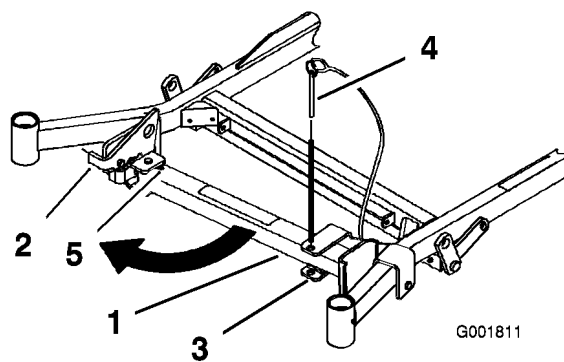
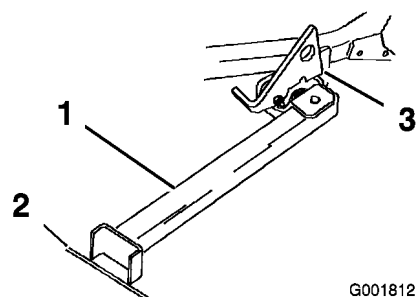

Figure 33
Figure 34
2. Remove the bracket pin (Figure 33).
3. Raise the latch. Swing the stand foot out front and slide stand toward machine, into the bottom of slot (Figure 33 and Figure 34).
4. Set the foot of stand on the ground and rest the latch on the pivot tab (Figure 34).
- Note:** For best results, place the foot of stand into seams in sidewalks or into the turf (Figure 34).
6. Drive onto the stand. Stop when the latch drops over the tab into the locked position (Figure 34). Once onto the stand, engage the parking brake and turn off the engine.
5. Return the stand to its rest position (Figure 33).